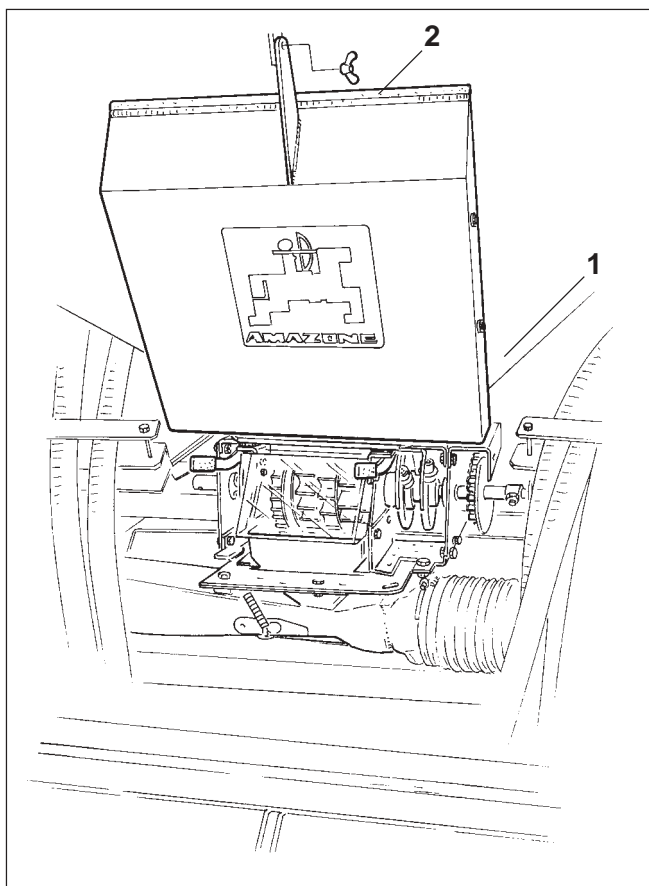
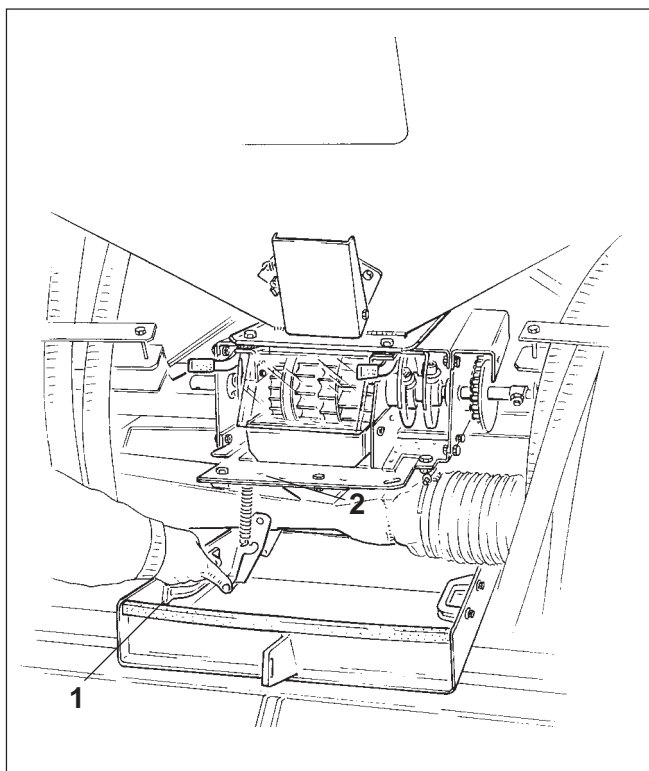

Fig. 21.2
Fig. 21.3
Remove thumb nut (Fig. 21.2/2) which holds the calibration tray (Fig. 21.2/1).
Take this calibration tray (Fig. 21.2/1) and place it below the metering unit as shown in Fig. 21.3/1.
Open flap (Fig. 21.3/2) .
- fix calibration tray (Fig. 21.2/1) to the seed box
- shut flap (Fig. 21.3/2)